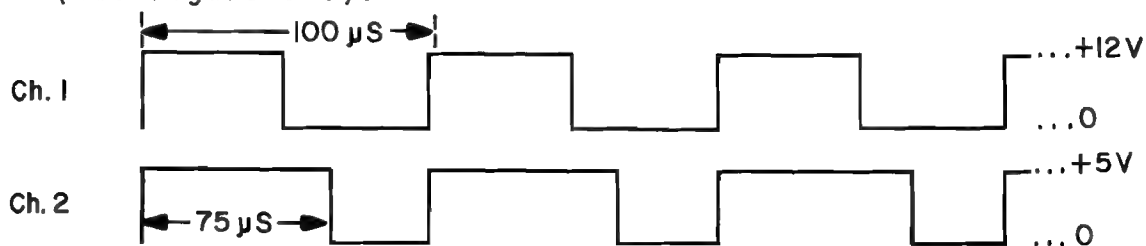

Figure 9-3 Cellular Pulse - Width Calibration
7. Trigger on positive edge of Channel 1 signal. Adjust R6555 so that duration of positive pulse on Channel 2 is 75  $\mu$ S. (See Figure 9-3).